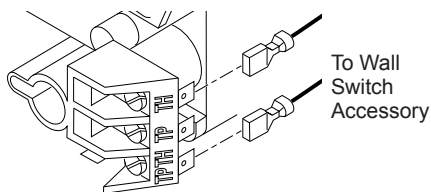

Figure 37 - Connecting Wall Switch to Control Valve
1. Connect one terminal of 25 ft. wire for wall switch to TPTH terminal on valve. Connect remaining wire terminal to TH terminal on valve. Make sure that wire terminals are in positions on unit as pictured in Figure 37. If wires are not connected as shown switch will not work.